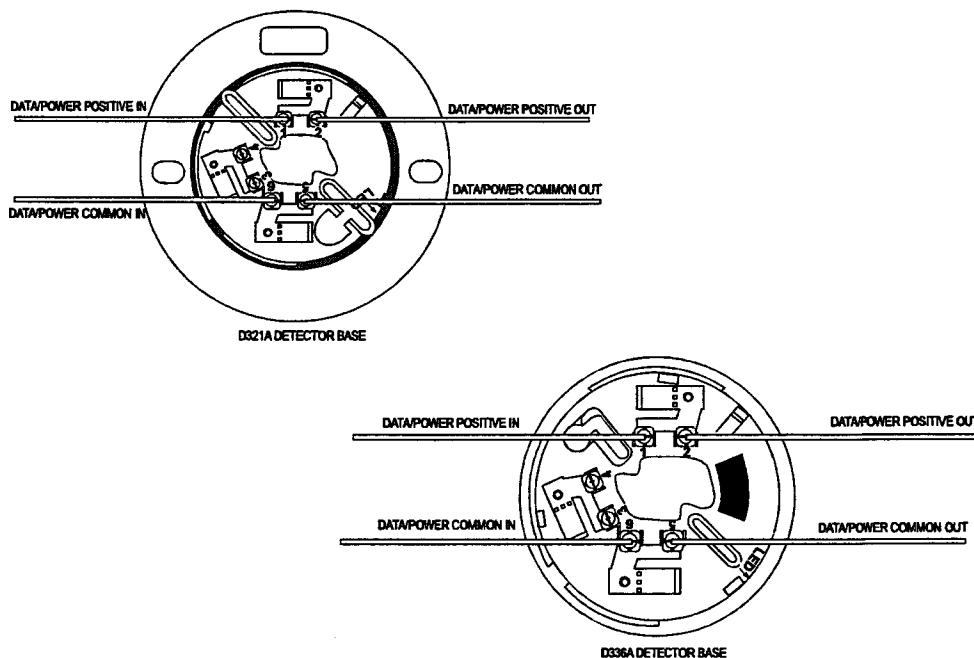

Figure 2: Detector Base Wiring
- Install the D321A or D336A Detector Bases in the polling circuit by connecting the Data/Power Positive (+) and Data/Power Common (-) terminals as shown in Figure 2.
- The Data/Power Positive (+) wire of the polling circuit connects to the + terminal of the Data Terminal Block at the top of the Control Communicator. The Data/Power Common (-) wire of the polling circuit connects to the (-) terminal of the Data Terminal Block. Connect the returning Data/Power wires to the respective terminals. See Figures 2 and 3 for wiring details.
- Install the D321A or D336A Detector Bases in the polling circuit by connecting the Data/Power Positive (+) and Data/Power Common (-) terminals. Refer to Figures 2 and 4 for wiring details.